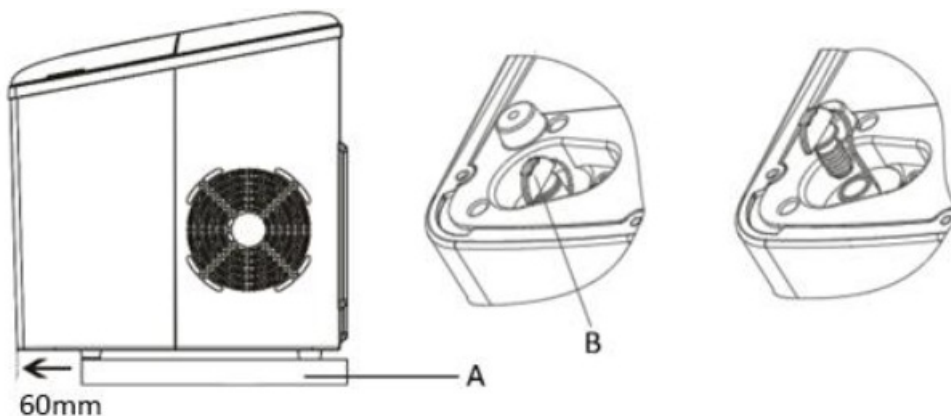

Fig. 4
- Move the appliance forward to a place 60mm away from the working table (A) and open the drain plug (B) to drain out excess water. You can use a container to catch the excess water. Then, replace the drain plug well in position. (Fig. 4)